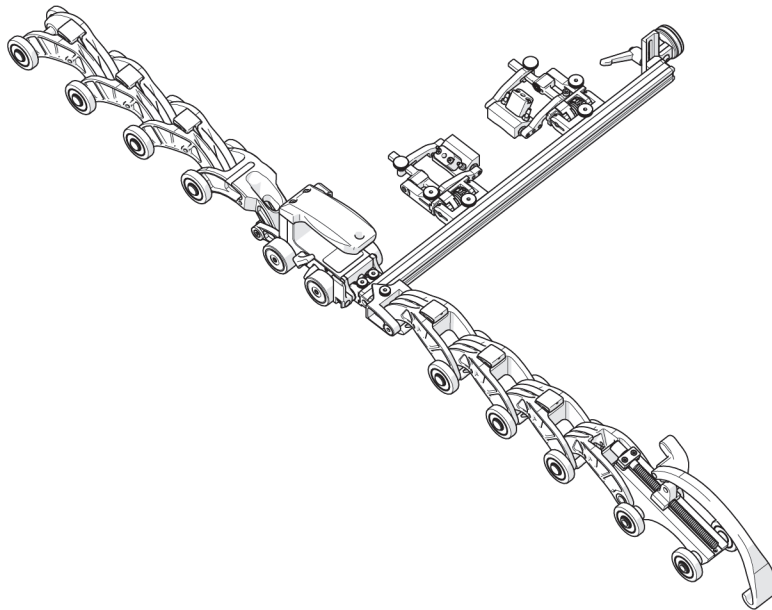

Figure 3-3 Assemble links on a flat surface
3. On a flat surface, connect the appropriate amount of QuickLinks as indicated on the ChainSCANNER setup chart. Arrange the configuration so the QuickLink buckle will be 180° opposite the cart body (see Figure 3-3 on page 82).